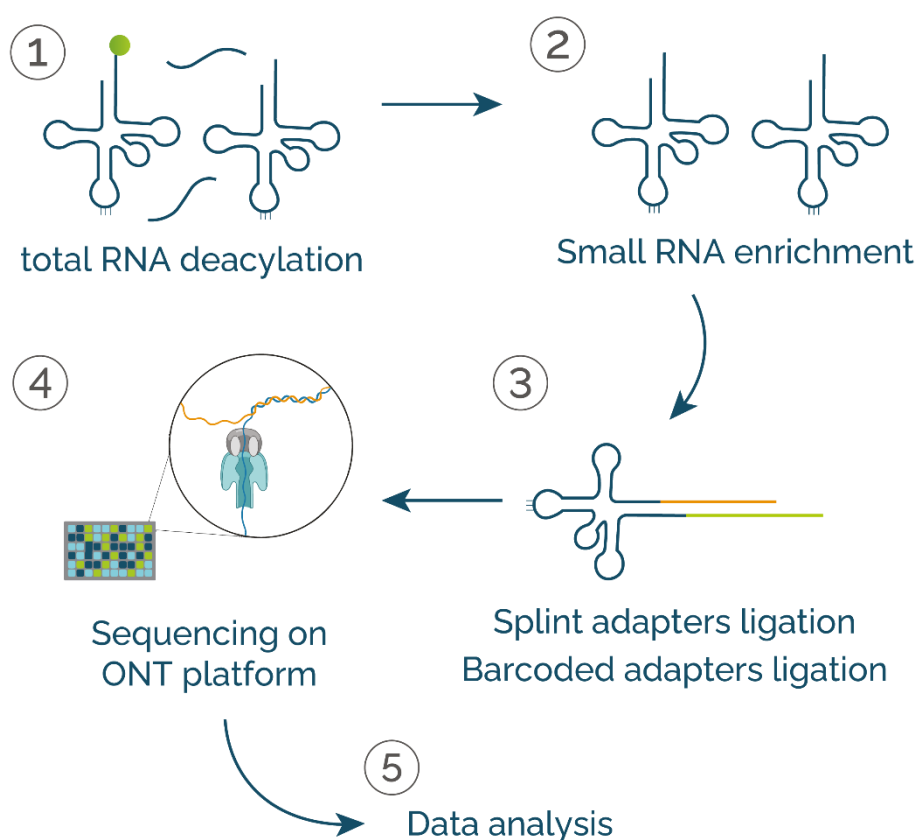

Figure 1. Simple overview of the nano-tRNAseq protocol.
The first step in nano-tRNAseq comprises deacylation (1) and small RNA enrichment from total RNA (2). Next, the tRNAs are bound with adaptors and subsequently to barcodes (3), allowing for multiplexing of up to 6 samples. The native tRNA is then sequenced on the Oxford Nanopore Technologies (ONT) platform (4). As tRNA is transversing the pore, each base generates an electrical current, which is converted into the tRNA sequence. After data analysis (5), information on tRNA abundance, coverage and post-transcriptional chemical modifications are obtained (Figure 1).